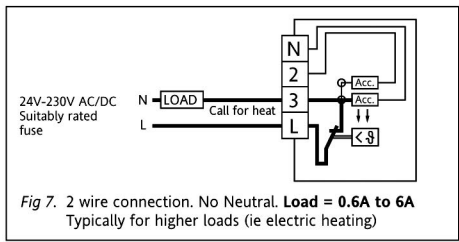

Fig 7. 2 wire connection. No Neutral. **Load = 0.6A to 6A**
- If reading is **ABOVE 0.6A** wire as Fig 7 (isolate electric supply before rewiring)